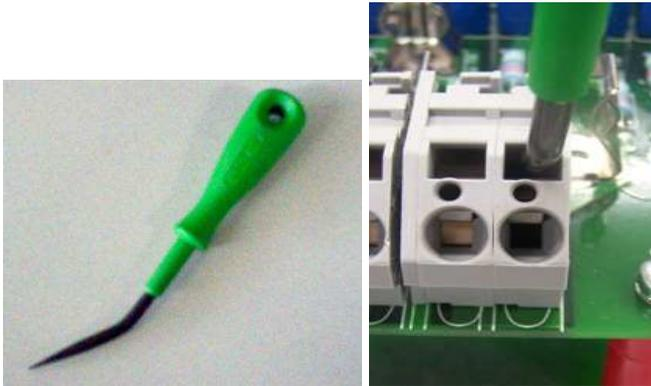

Figure 9-19: Use the special screwdriver on the terminals
Insert the special screwdriver (Figure 9-19) into the clamp (pushing it home!) in order to completely open the contact. Push the wire (positive pole) coming from the string through the cable gland provided (Figure 9-18) and connect it individually to the terminal. Then remove the screwdriver and pull on the wire to check that it is correctly inserted. Repeat the operation for all the other wires.
Insert the special screwdriver provided (Figure 9-19) into the clamp (pushing it home!) in order to completely open the contact. Push the wire (negative pole) coming from the string through the cable gland provided (Figure 9-20) and connect it individually to the terminal. Then remove the screwdriver and pull on the wire to check that it is correctly inserted. Repeat the operation for all the other wires.
- 1) Referring to points 4 and 5 of §10.1.1 (for positive and negative strings, respectively), insert a suitable screwdriver (Figure 9-19) fully home in the terminal, so as to fully open the contact and help wire removal.